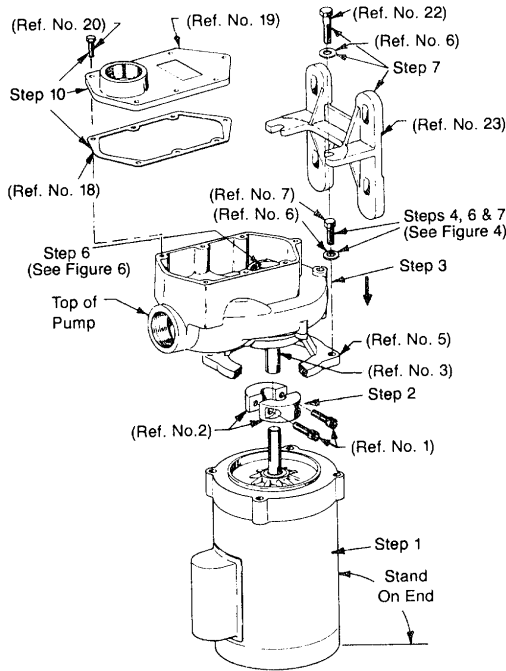

Figure 3
1. Place motor on end opposite shaft, on a level surface, support If necessary. Remove suction plate (Ref. No. 19) (See figure 3.)
2. Assemble two halves of shaft adapter clamp (Ref. No 2) with two socket head capscrews (Ref. No.1), leave assembly loose and slide onto shaft adapter of pumping unit assembly (See figure 3).
3. Slide pumping unit assembly onto motor shaft and mounting face (See figure 3).
assembly. Tighten screws with 9/16 wrench so the adapter seats firmly on motor mounting face. (See Figures 3 & 4.)
5. Slide the assembled shaft adapter clamp (Ref. No. 2) to within 1/8" from the end of the shaft adapter (Ref. No. 3). Align the slot in the two clamp halves and tighten the two socket head capscrews (Ref. No. 1) with 3/16 hex key (allen wrench) (See Figures 3 & 5).
7. Thread two 3/8-16 x 1 1/4 hex capscrews (Ref. No. 22) with washers (Rev. No. 6) into two bottom holes in adapter. Install mounting foot (Ref. No. 23) with the longer leg towards the rear of motor. Tighten all four hex capscrews with 9/16" wrench (See Figure 3).
9. Place suction plate gasket (Ref. No. 18) on casing face. Place suction plate (Ref. No. 19) on gasket and casing face with the inlet to the top of pump. Thread (7) 1/4-20 x 3/4 hex capscrews through plate into casing and tighten with 7/16" wrench (See Figure 3).